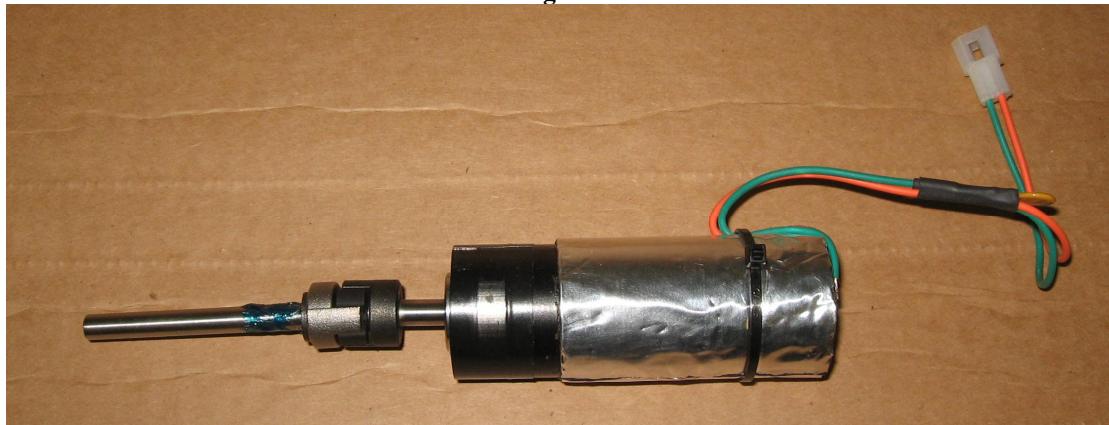

Figure 28
- 5) If the parts are in good condition, apply a small quantity of high pressure (chassis) grease to the output shaft and reattach it to the gear motor (Figure 28)